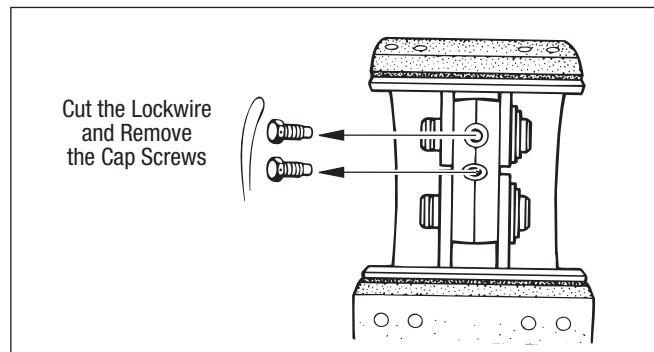

Figure 20 – Cap Screw Removal
2. To allow removal of the anchor pins, cut the lockwire and remove the cap screws from the spider. Refer to Figure 20.